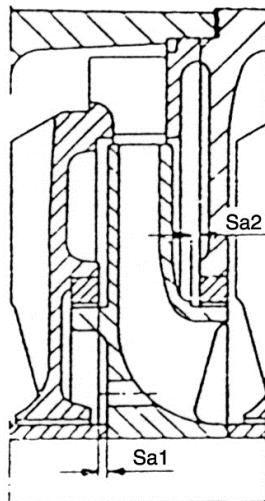

Fig. 74 - Checking the total axial clearance
6. After assembly of each individual stage, check the total axial clearance "Sa 1 + Sa 2" of the pump rotor (approx. 6 mm, see Fig. 74).